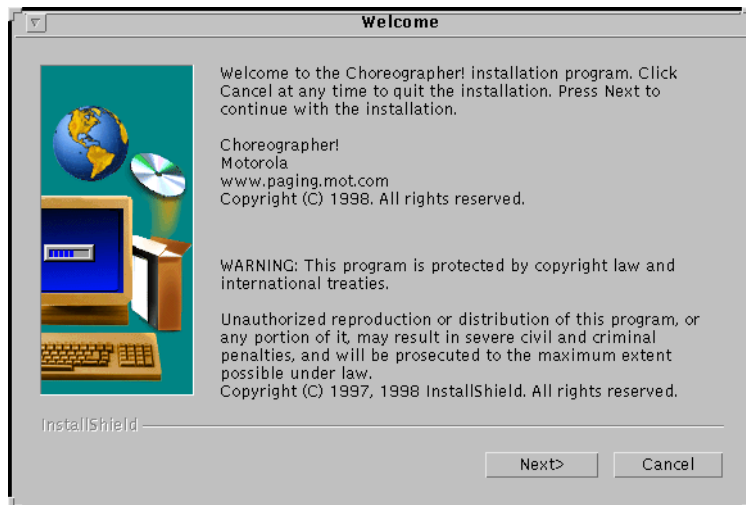

Figure 3-1: Welcome Screen
9. If the CD-ROM remains in the drive, the Welcome screen appears (see Figure 3-1). If you removed the CD-ROM from the drive, you receive a prompt to replace it.